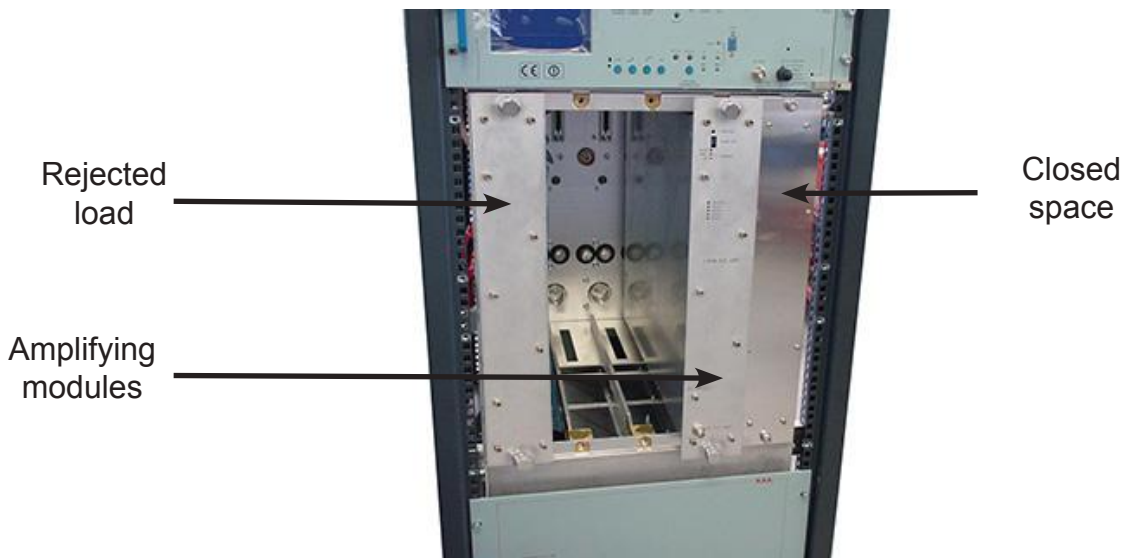

Figure 5.2
- 3 Insert the rejected load in the first compartment and then the amplifying modules [Figure 5-2].